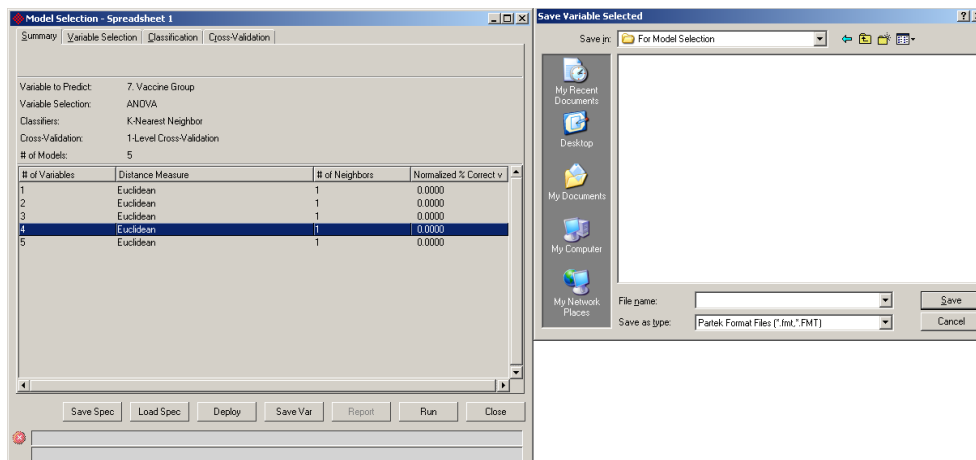

Figure 12.53: Loading and Testing a Model
- As shown in Figure 12.53., highlight the model, and click the **Save Var** button. In the pop-up, *Save Variable Selected* dialog, give the selected variables a file name, and click **Save** to save the file as a *Partek Format* (.fmt) file